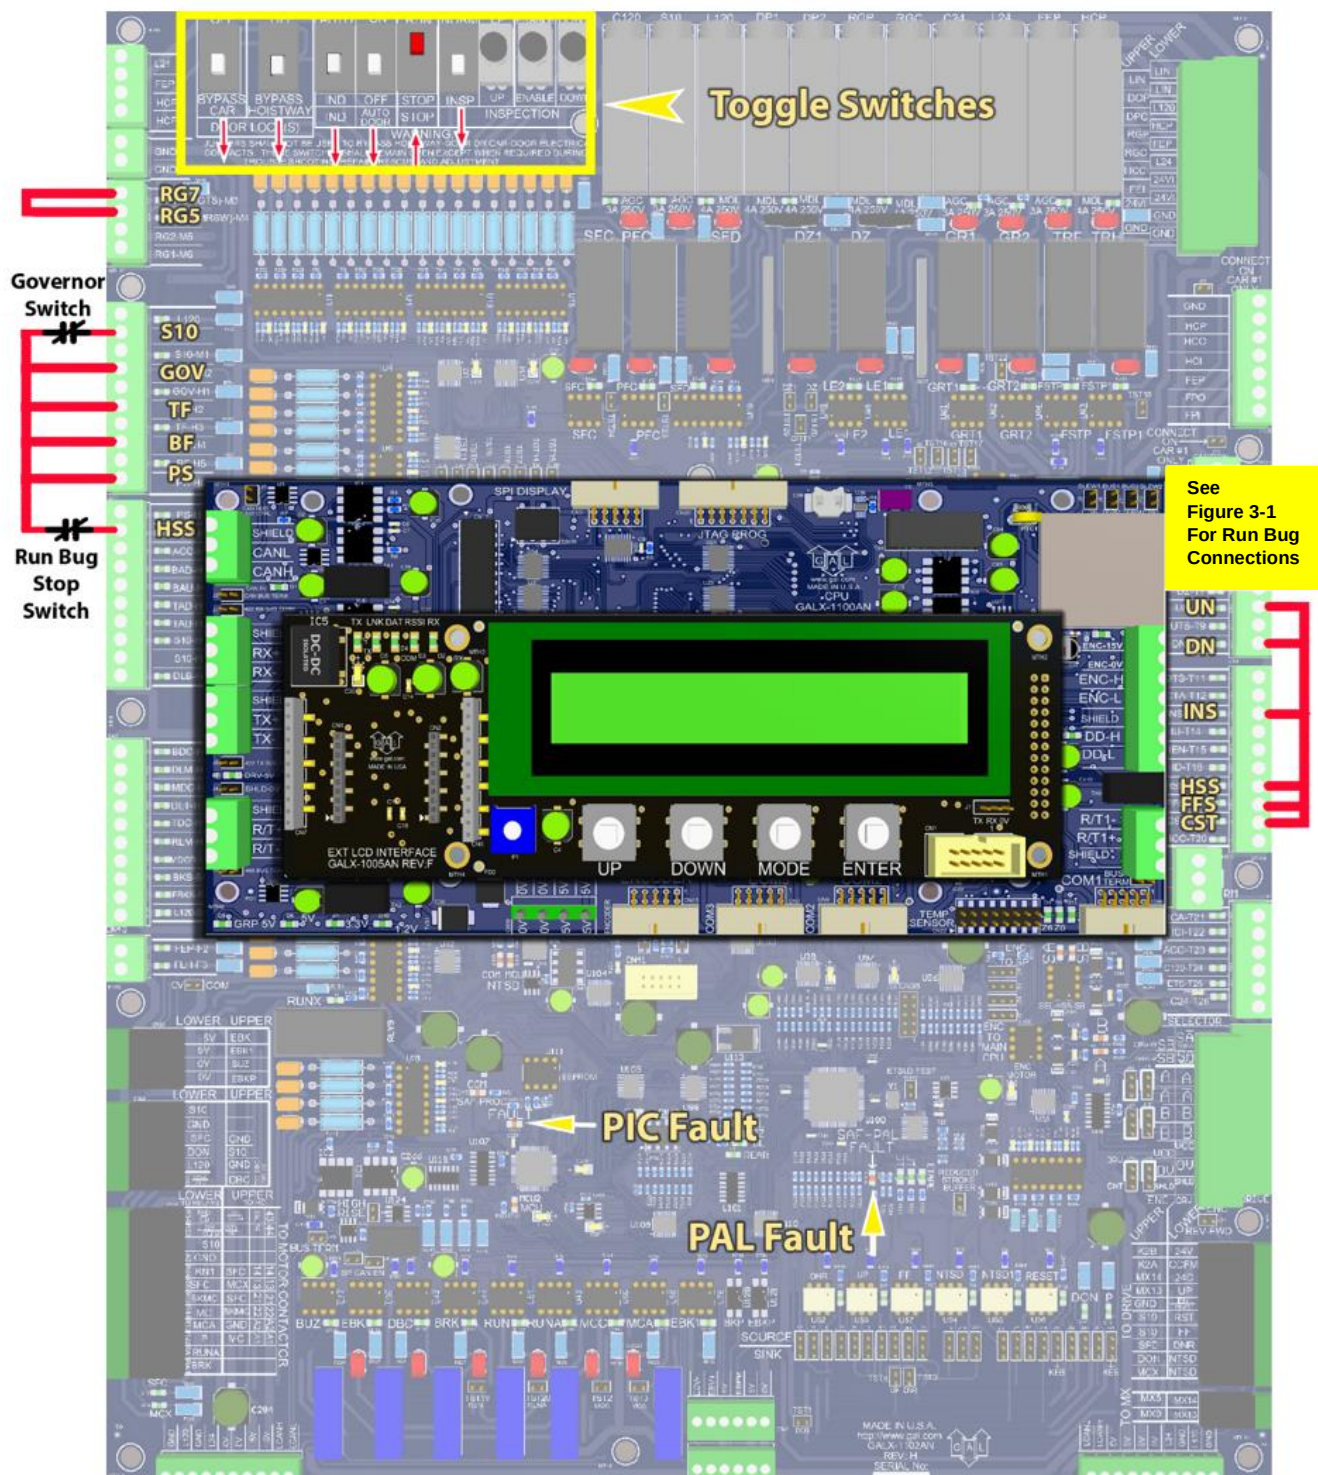

Figure 3-4: GALX-1102AN Main I/O
With Run Bug. See Figure 3-4
- 6) Set the toggles switches on the GALX-1102 Main I/O Board as show in Figure 3-4.
- 9) Verify the PIC and PAL fault LED's are off. See the GALX-1102AN Main I/O Board in Figure 3-4. If these LED's are on, refer to Section 04 Troubleshooting.